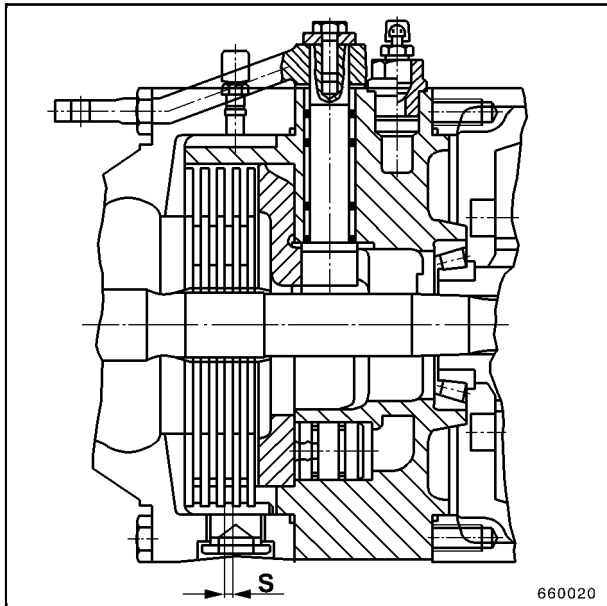

Fig. 10
- Check the brake for wear. The internal disks with friction layer must be replaced when they are worn down to the minimum thickness (S, Fig. 10) of 4.5 mm (0.18 inch).